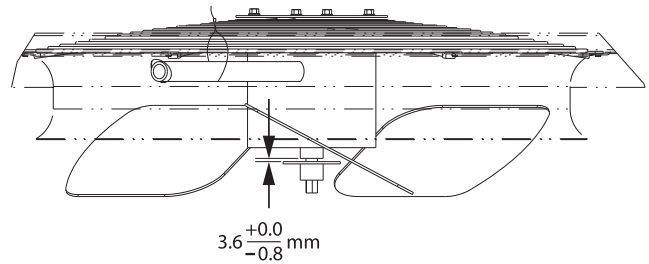

Fig. 30 – Condenser Fan Adjustment
4. Adjust the fan height as shown in Fig. 30.